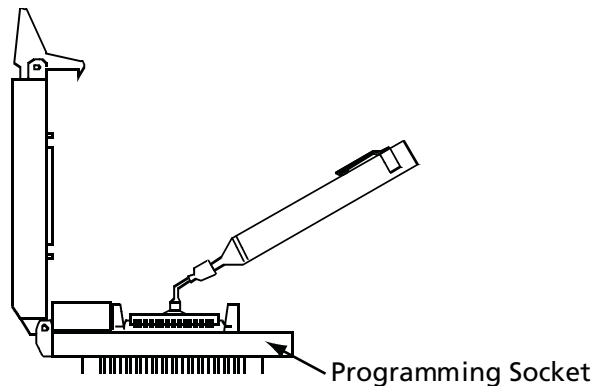

Figure 5: Inserting the Device in the Socket
1. Carefully align the device with the socket and gently lower the device into the socket (Figure 5). Do not force the device into the socket; otherwise, the corner leads may be bent if the alignment is out.